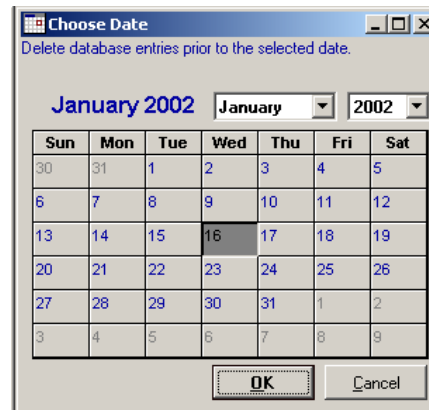

Figure 5-102 Choose Date Calendar
1. On the **Tools** menu, click **Erase Database**. The **Choose Date** calendar opens. See Figure 5-102.